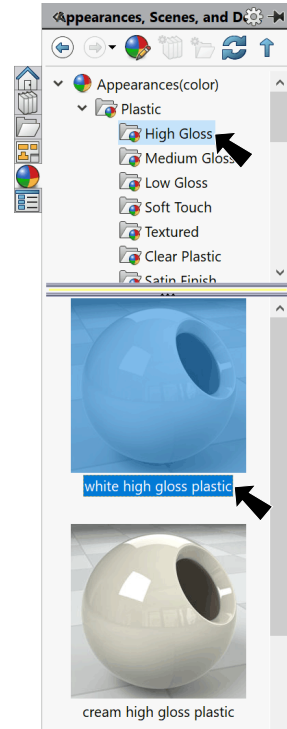

Fig. 20
Step 2. In the Appearances Task pane, expand **Plastic**, click **High Gloss** and in the lower pane select **white high gloss plastic**, Fig. 20.